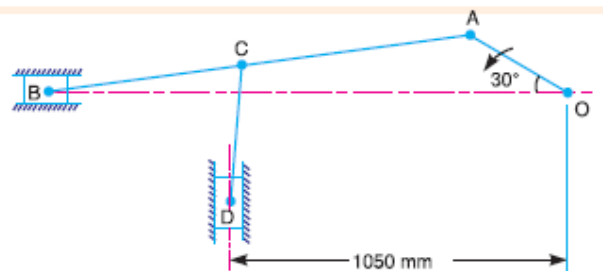

Figure 2.2
- (b) In the mechanism, as shown in Fig. 2.2, the crank OA rotates at 20 rpm anticlockwise and gives motion to the sliding blocks B and D. The dimensions of the various links are OA = 300 mm; AB = 1200 mm; BC = 450 mm and CD = 450 mm. For the given configuration, determine: 1. velocities of sliding at B and D, 2. Angular velocity of CD, 3. linear acceleration of D, and 4. angular acceleration of CD. **07**